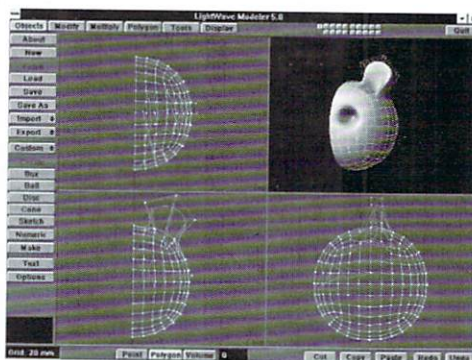

Figure 2
- Next, we'll need to give the bear head a basic eye-socket. This can be done very easily. Choose a point where you want the center of the eye to be. I chose the point located at approximately (25 mm, 12 mm, -58 mm). Select this point, being sure to deselect any others you pick up on the back of the head. In the Top View, move this point back into the head (-16 mm, 0 mm, 60 mm). Finally, deselect all points and polygons (Figure 2).